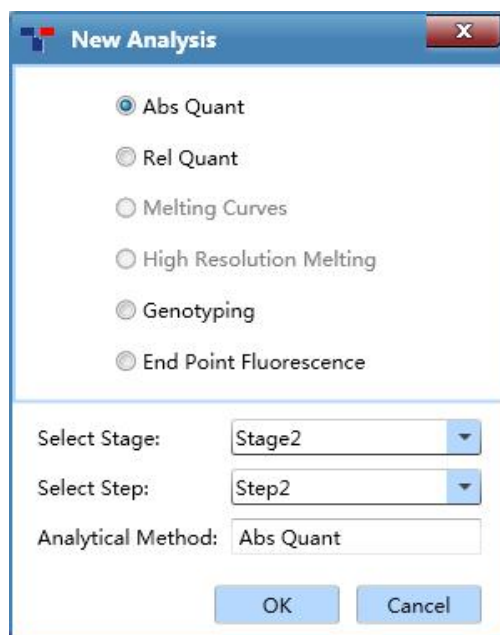

Figure D-8. New Analysis window
- Users can click <  **New Analysis** > icon in Tool Bar and the application software will automatically pop up the new analysis window, as shown in figure D-8.